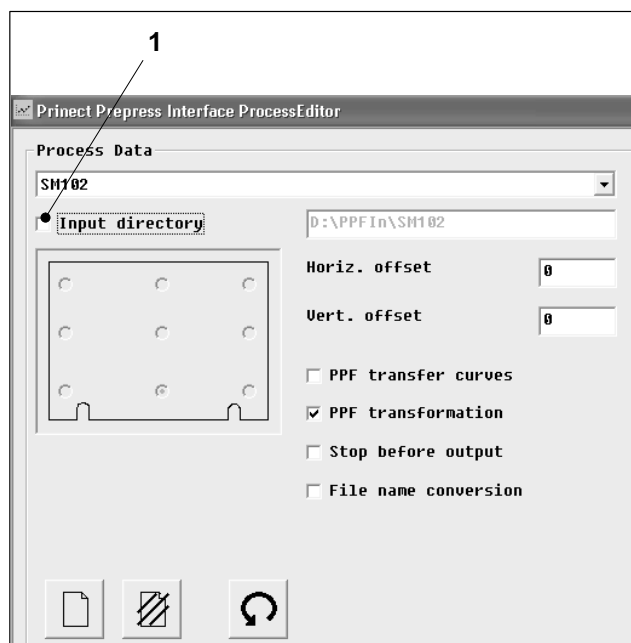

Fig. 32 Process is inactive
- Click on the highlighted *Input directory* check box. The check disappears and the box is empty (Fig. 32/1).